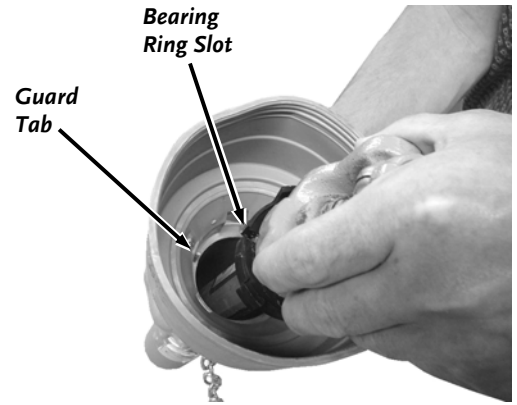

Figure 30
7. Insert the Shaft Halves into the Guards making sure that the Bearing Ring Slot lines up with the Tab on the inside of the Guards for proper installation (**Figure 30**).